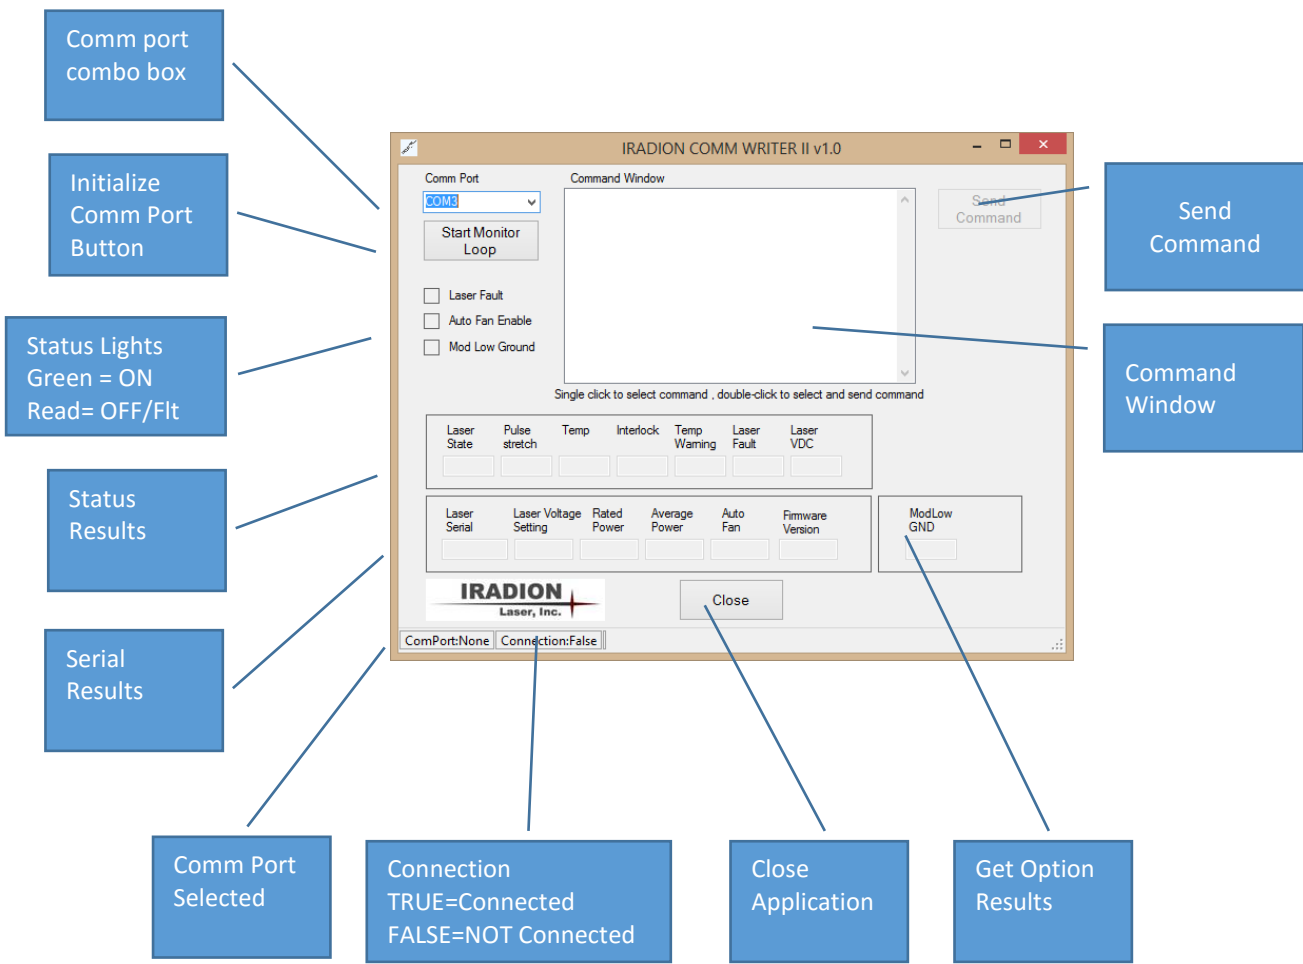

Figure 6 Comm Writer II startup view
- 4.5. Click on the **comm port** combo box (see figure 6 and figure 7).
- 4.7. Click on the **Start monitor loop** button to open the comm port and start automatically polling the status of the laser. (see figure 6) Note: You have to select a comm port first, otherwise this button will be disabled. Upon success on initializing the comm port, the status bar (bottom of the application) will show the connection status as **connection:true**. The comm port opened also will be show in the status bar's left side.